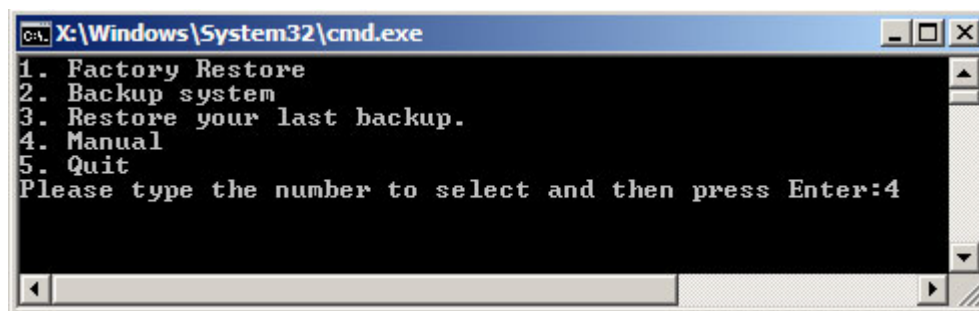

Figure B-8: Recovery Tool Menu
Step 2: The recovery tool menu appears. Type <4> and press <Enter>. (**Figure B-8**)